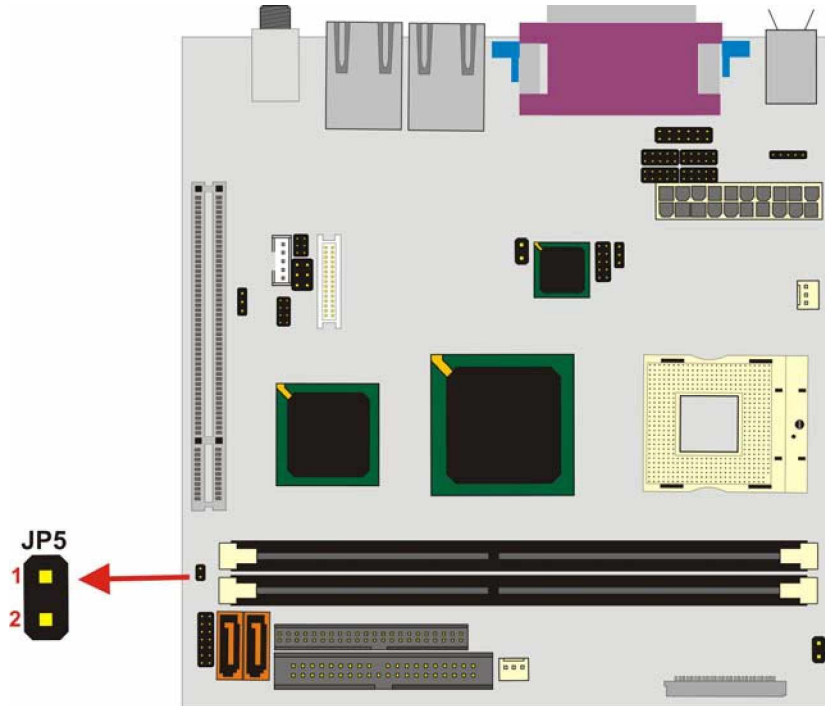

Figure 3-28: JP5 Pinout Locations
- Jumper Location:** See Figure 3-28